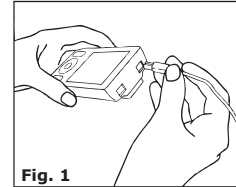
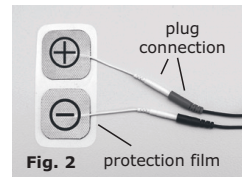
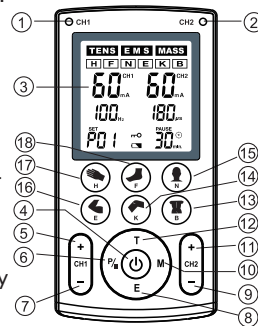

Fig. 1
Fig. 2
Fig. 3
**Step 2:** Insert one or two connecting cable(s) in the connector socket(s) of the device (see **Fig. 1**). Afterwards, connect the adhesive electrodes to the device by means of the plug connections (see **Fig. 2**). The device must be switched off when establishing the connection!
**Step 4:** In order to switch on the device, press the start key (4) (⏻) (**Fig. 3**). Set the desired application programme by using the keys (12) (T) = TENS, (8) (E) = EMS or (10) (M) = MASSAGE. Furthermore, you can select special programmes for the indicated parts of the body by using the one-touch keys (13) (B) = back, (14) (K) = knee joint, (15) (N) = neck, (16) (E) = elbow joint, (17) (H) = hand and (18) (F) = foot.
**Step 8:** In order to switch off the device, press and hold the key (4) (⏻) (**Fig. 3**). Remove the plug of the connecting cable from the device and the adhesive electrodes. Then, remove the adhesive electrodes from the body and stick them back on the protective foil (**Fig. 2**). **NOTE:** If none of the keys is pressed, the device switches off automatically after three minutes provided that it is not in the operating state.
**CAUTION:** If malfunctions occur while using the device or if you wish to immediately stop the application, press and hold the key (4) (⏻) (**Fig. 3**). Every time a key is pressed, an acoustic signal (beep) is generated.